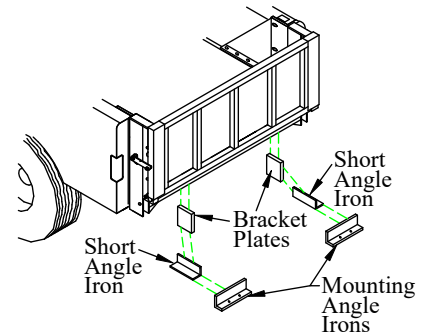

Figure 12: Lower bracket support.
- 2. Bolt** the bracket plates to the truck frame (Figure 12).